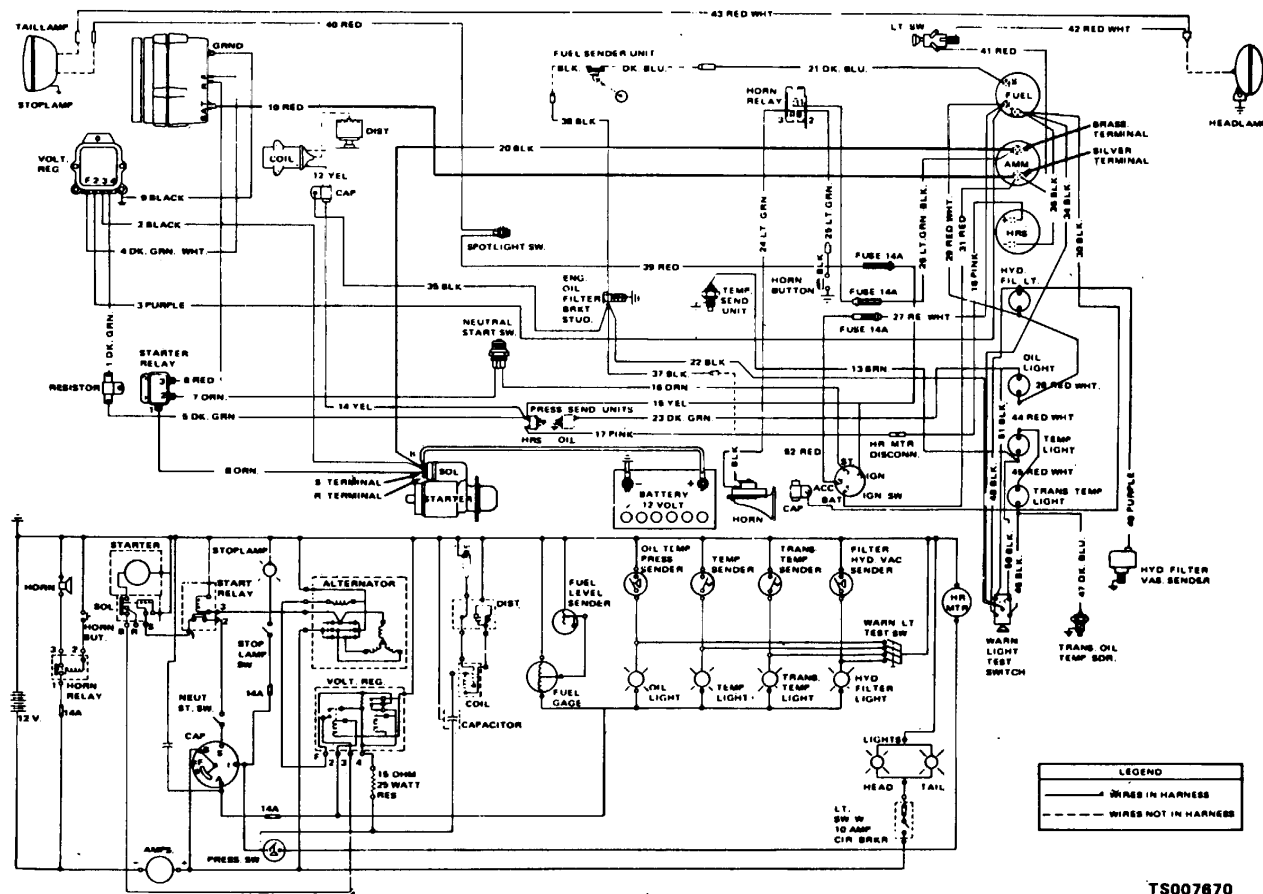

Figure 1-3. Wiring Diagram
(11) Electrical wiring. Refer to figure 1-3.